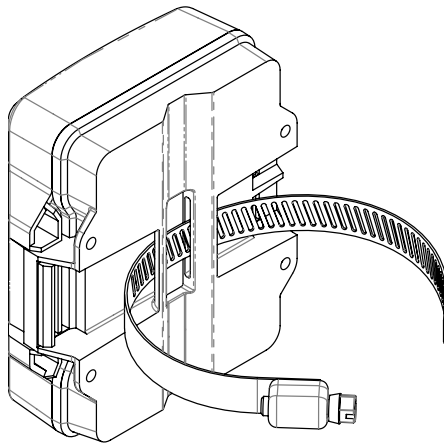

Figure 3 - Pole mount installation
2. Slide hose clamp or tie wrap through two slots on back of unit (see Figure 3).